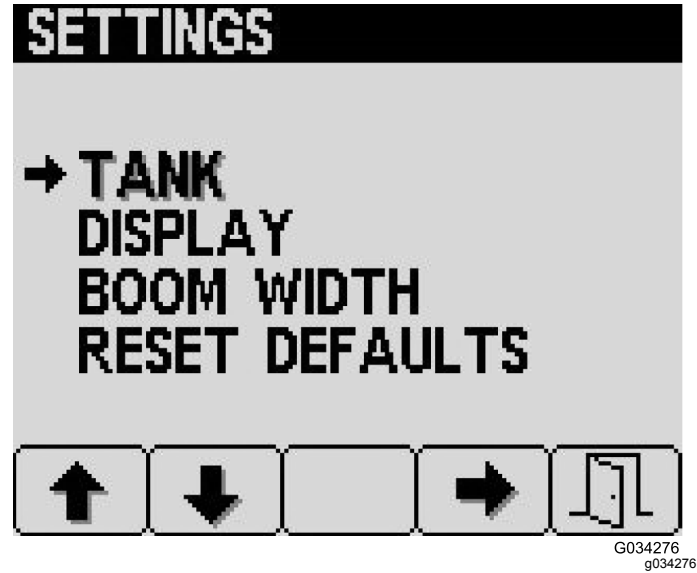

Figure 25
1. At the Settings screen, press button 2 to navigate to the Tank option, and press button 4 Tank (Figure 25).